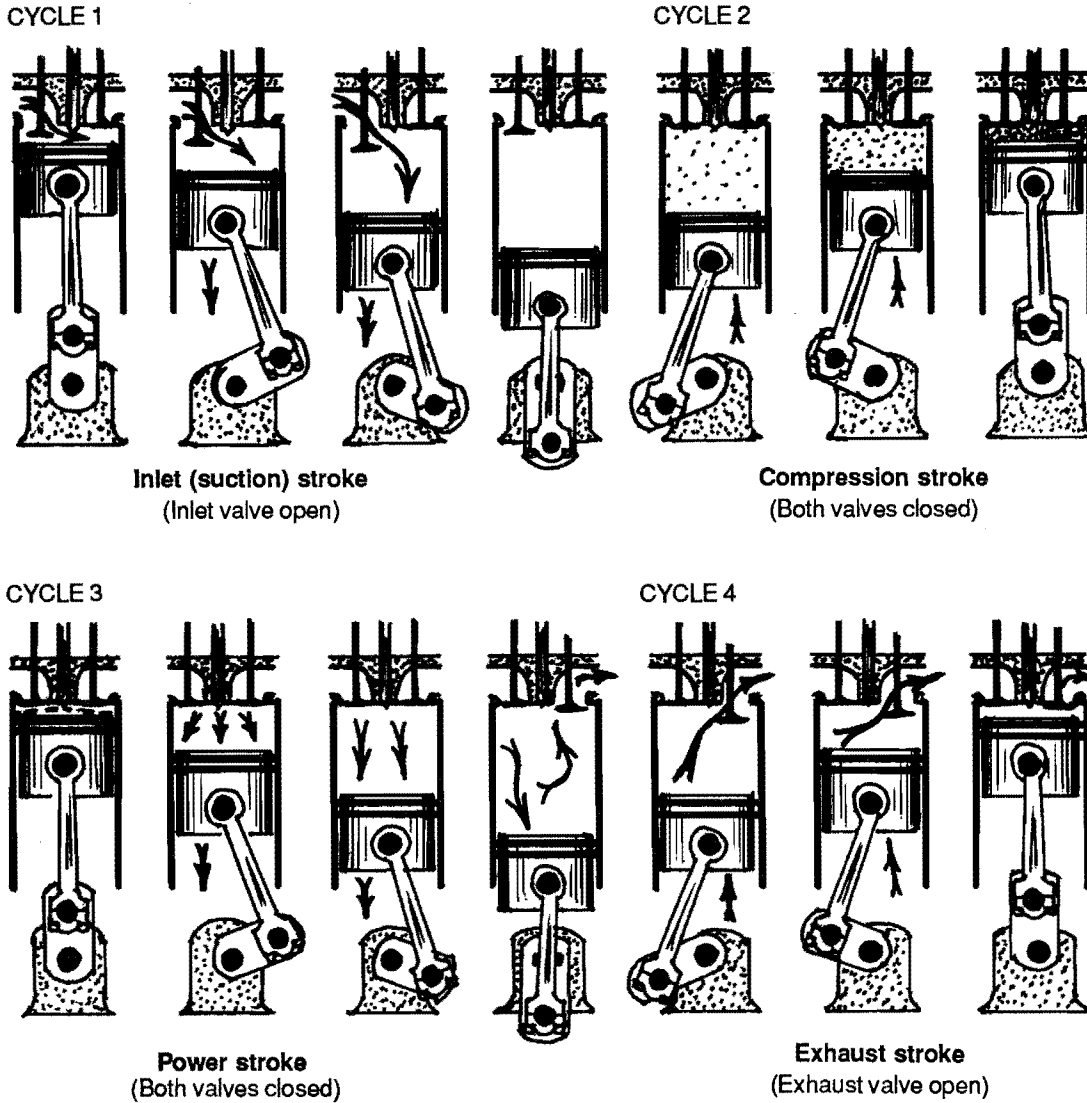

Figure 1-6. Operation of a 4-cycle engine.
1. Starting with the piston at the top of its cylinder, the inlet valve opens. The crankshaft turns, pulling the piston down the cylinder, which creates a partial vacuum. This causes air to be sucked into the cylinder (see Figure 1-6).